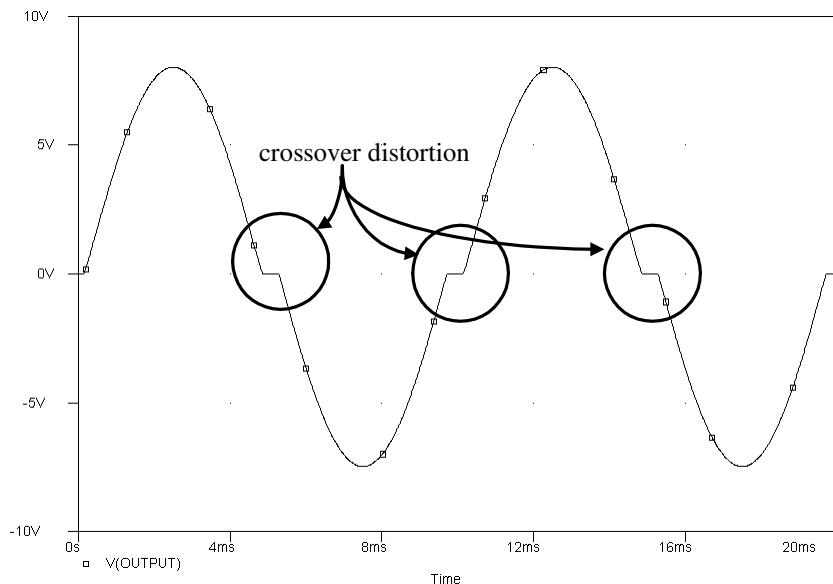

Figure 5-18 Properly biased class B amplifier shows crossover distortion
2. The composite waveform is shown in Figure 5-18. When the input falls below a few volts, the voltage on the *n*-channel MOSFET's gate drops below V_{th} and the transistor turns off. That's too early. The *p*-channel MOSFET does not turn on until the input is a volt or two negative. That's too late. The result is a flat spot on the output as the input crosses 0 V. This is the result of the 2 V to 4 V threshold variation. Biasing at ± 2 V assures that all versions of the transistor are off. But that conservative practice may then require some of the input signal to bring the transistors into full conduction.